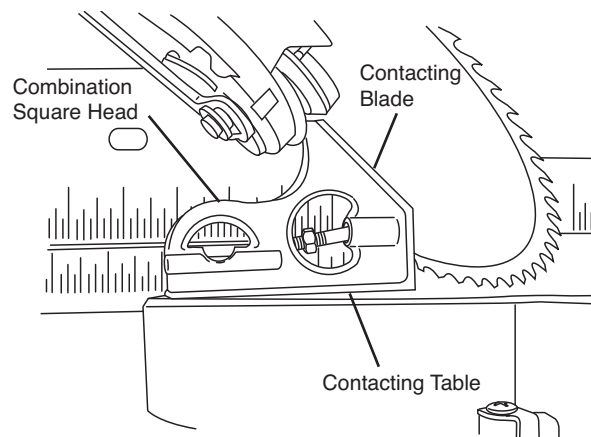

Figure 24
1. Hold the saw head assembly down and push in the head assembly lock pin (item 43 – page 9) to keep the saw in the DOWN position.
2. Slide the head assembly completely to the back and engage the lock lever (item 27 – page 9) by lifting up the finger tab.
7. Use a combination square to check that the blade is 45° to the table. Remove the rule blade from the combination square. Place only the combination square’s head on the saw’s table with its long flat side resting on the table and its 45° side against the tilted blade (see Figure 24).
5. While turning bolt "F," watch the blade tilt – turn "F" until the saw blade plate is in full contact with the 45° side of the square's head (see Figure 24).
6. If needed, adjust bevel scale pointers (item 36 – page 9) to be in line with the bevel scale's 45° lines. First, adjust right bevel pointer; then tilt saw head to the right 45° stop position (see page 41 – "Bevel Range 2 = 0-45° Right") and adjust the left bevel pointer. Tilt the saw head to the 0° position – both pointers should be on the bevel scale's 0° lines.